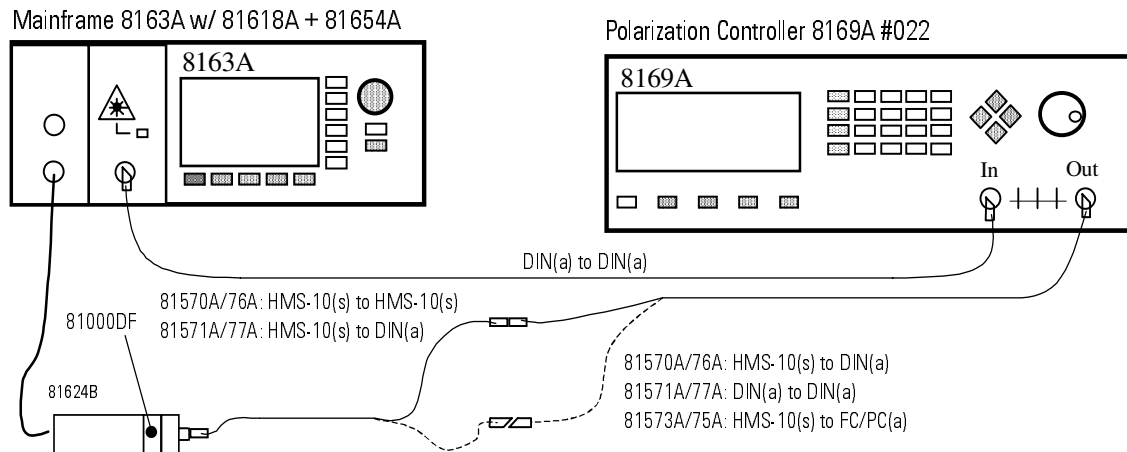

Figure 17 PDL Reference Setup
- 3 Connect the equipment as shown in Figure 17.